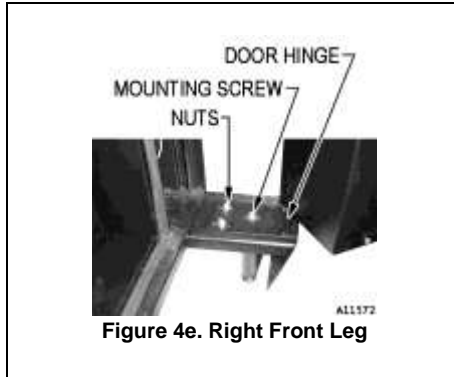
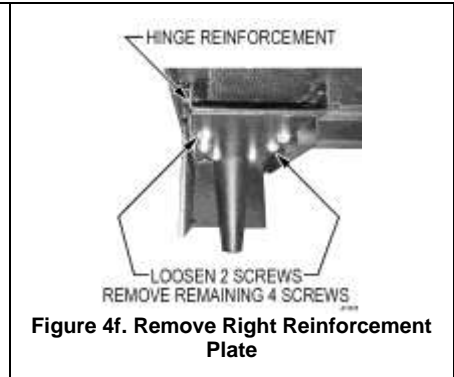

Figure 4e. Right Front Leg
Figure 4f. Remove Right Reinforcement Plate
Move to the Right Front Leg. From underneath the machine, loosen the two (2) screws shown in Figure 4f. Remove the remaining four (4) screws and also the large screw. (Figure 4e). Remove the Bottom Hinge Reinforcement. Save all parts for step 6. Push the Right Front Leg in so that it is flush with the cabinet. Tighten the two (2) screws underneath.
6. **Extend the Front Legs** - Start with the Left Front Leg. Loosen the two (2) bottom screws. Pull the leg forward to its original position. Install the Hinge Reinforcement under the leg. Tighten the two screws and install the four (4) large screws (saved from step 4) through the bottom.
Reinstall the Door Lift on top. Use the fasteners saved from step 4. Install the four (4) large screws through the bottom. Reinstall the Door Hinge, nuts and large screw on top (Figure 4e). Tighten all fasteners.
Go to the Right Leg. Loosen the two (2) bottom screws. Pull the leg forward. Install the Hinge Reinforcement underneath. Use the fasteners saved from step 4. Install the four (4) large screws through the bottom. Reinstall the Door Hinge, nuts and large screw on top (Figure 4e). Tighten all fasteners.